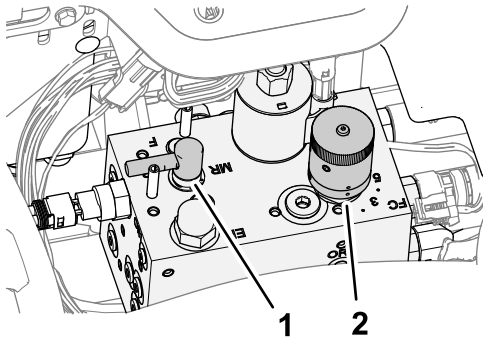

Figure 94
- Move the backlap lever to the R (backlap) position (Figure 94).